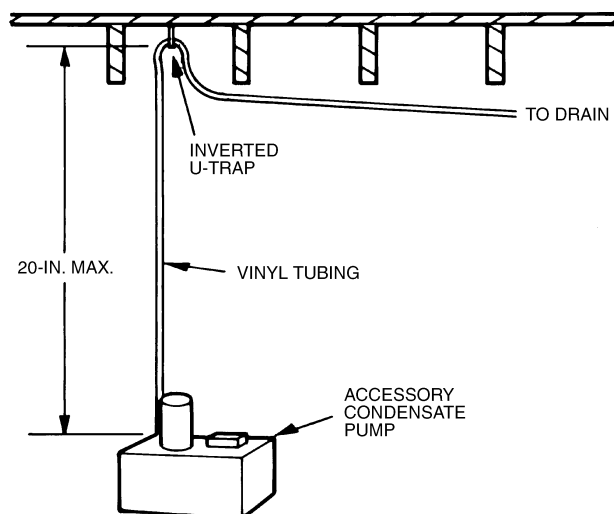

Fig. 1 — Piping Connections
- Connect $\frac{3}{8}$ -in. ID vinyl tubing to the fluted discharge fitting and raise it to the highest possible point above the pump (up to 20 in.). See Fig. 1.
- Form an inverted U-trap (see Fig. 1), and slope tubing downward toward drain. This inverted U-trap helps prevent backward siphoning which causes the pump to cycle excessively. If flowback is a problem, the installation of a field-supplied check valve is recommended.